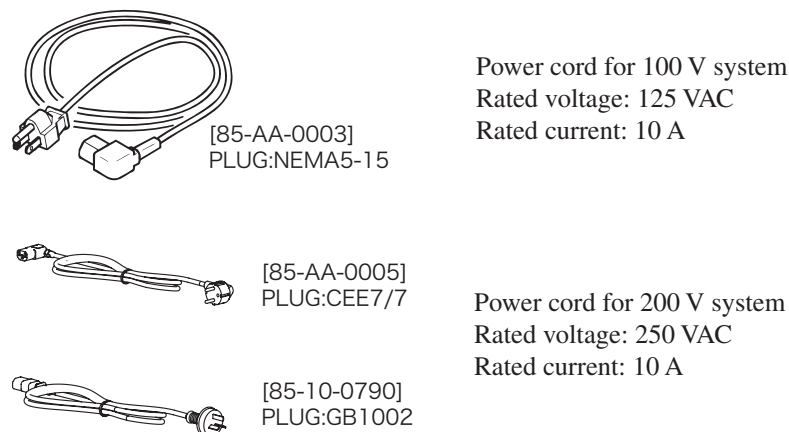

Fig. 2-3 AC power cord
- ⚠ WARNING** • The AC power cord for 100 V system shown in Fig. 2-3 has a rated voltage of 125 VAC. If this AC power cord is used at the line voltage of a 200 V system, replace the AC power cord with that satisfying that line voltage.